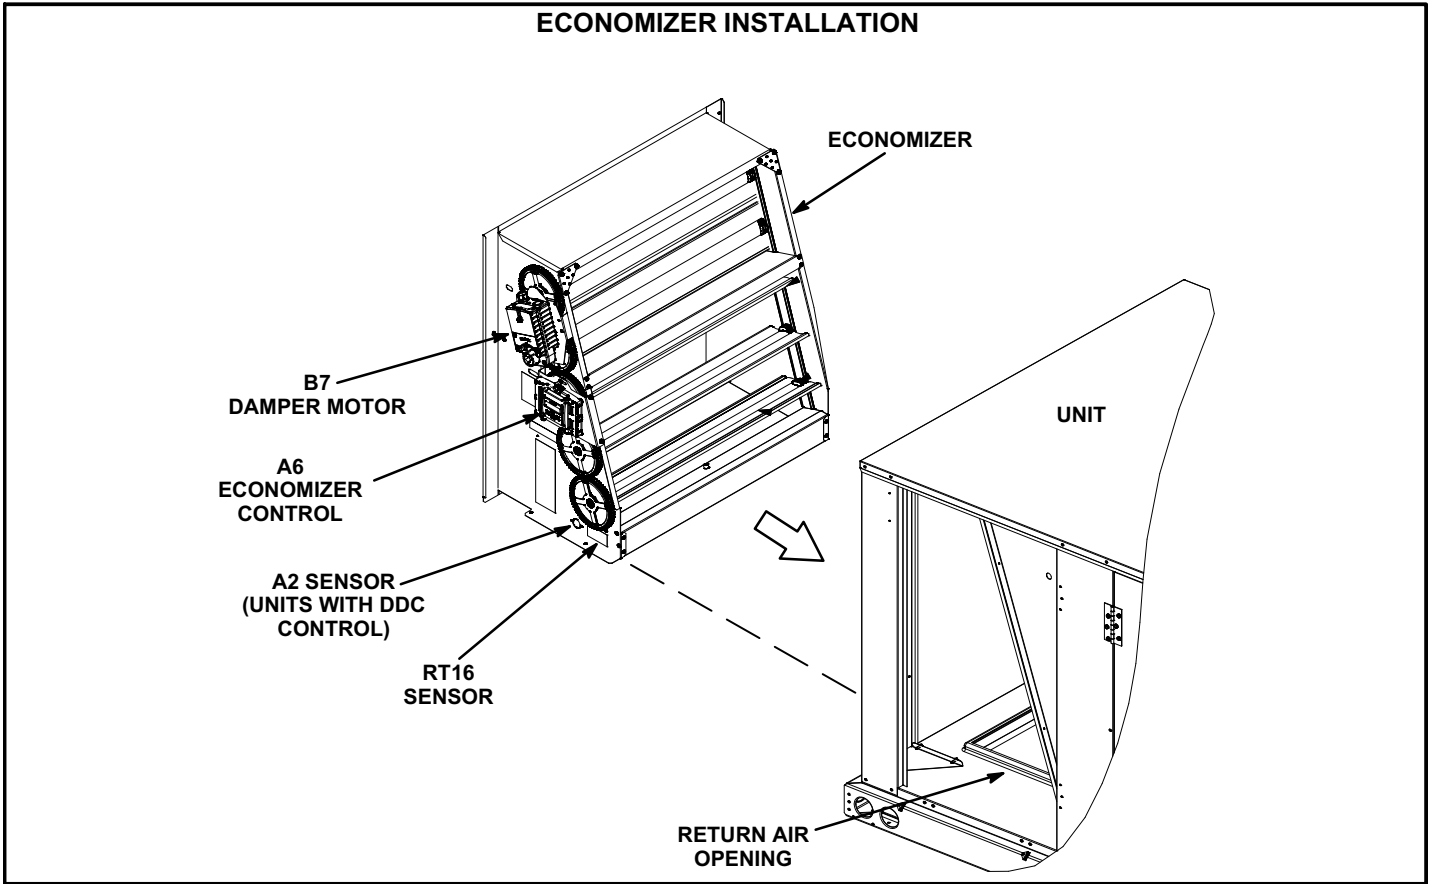

FIGURE 4
- 5- Fit opening in bottom of damper assembly over the return air opening. See figure 4.
- 6- Install retained sensors in the side of the economizer. See figure 4.